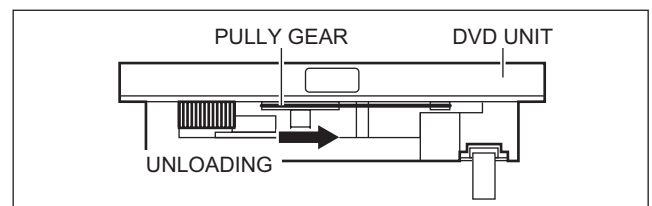

Fig.2-2a
- (1) Unplug the power cord plug from the power outlet.
- (2) Remove the top cover and front panel assembly. (Refer to the disassembly procedure and perform the disassembly of the major parts before removing)
- (3) Turn the motor on DVD Loading Motor board assembly by hand to open the disk tray. (See Fig. 2-2a)